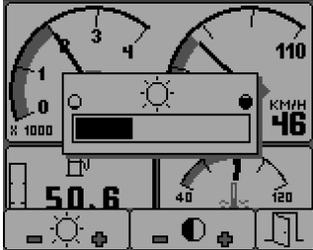

Figure 7.2.1: Lighting Adjust
- ▶ The LCD has four back-light levels that allow the display to be read in the dark. The appropriate level is selected by pressing key #1 to decrease the illumination or key #2 to increase it (see *figure 7.2.1*).